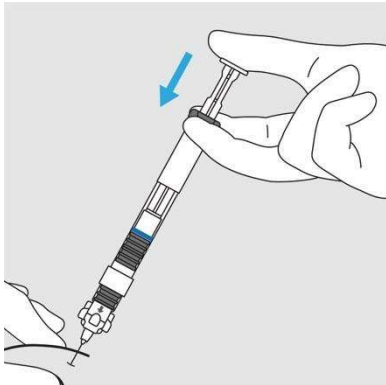

Figure 18: Push plunger to inject
- b. Push the plunger all the way down slowly until the entire contents of the syringe have been injected. Pull needle straight out at the same angle it was inserted, then use clean gauze to apply gentle pressure. (Figure 18)